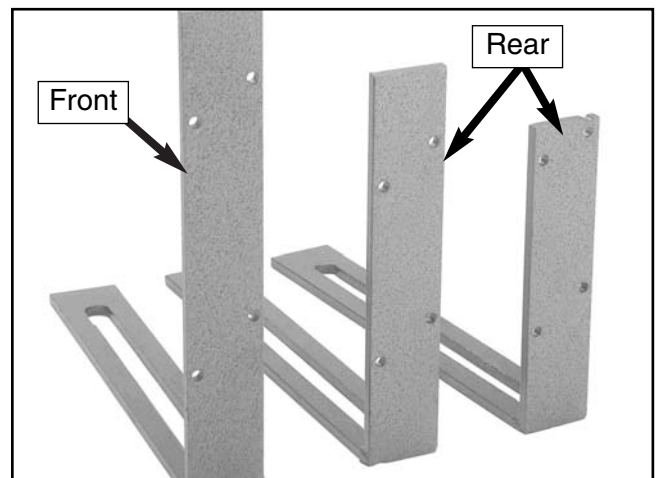

Figure 13. Table brackets laid out for identification.
3. Identify the three table brackets in **Figure 13** before continuing.